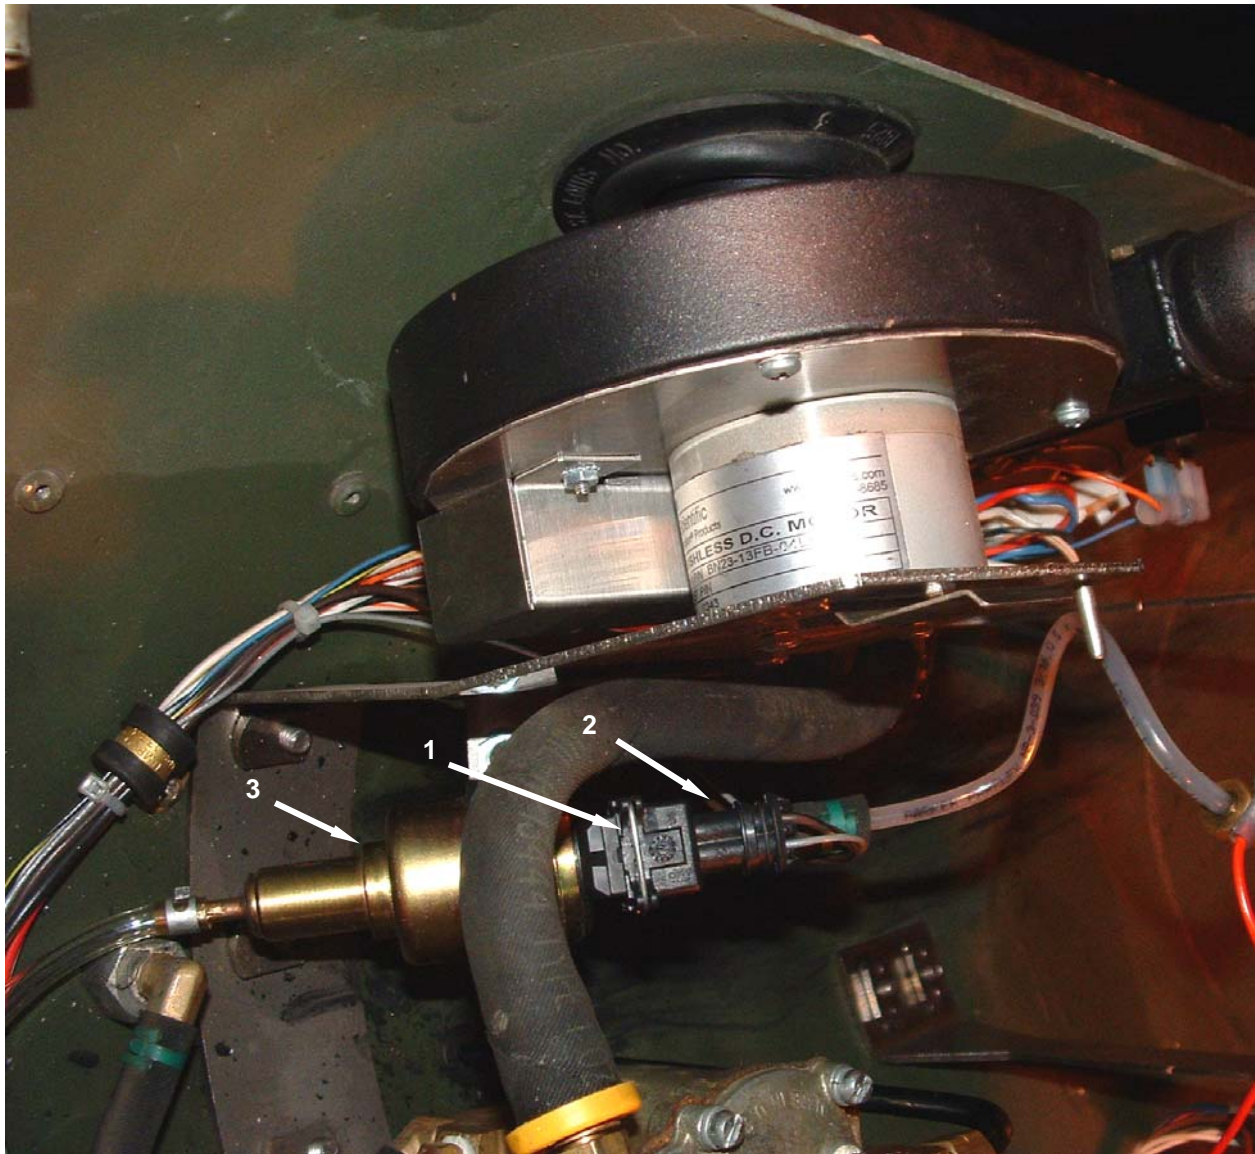

Figure 1. Test the Fuel Pump.
1. Push (do not pull) on the wire clamp (**Figure 1, Item 1**) to release the electrical connector (**Figure 1, Item 2**), and disconnect the electrical connector for the fuel pump (**Figure 1, Item 3**).
2. Test for continuity with an ohmmeter. A correct reading should read 5 ohms, +/- 2 ohms. If it has a reading other than specified, replace an open or shorted fuel pump (**Figure 1, Item 3**).
3. Reconnect the electrical connector (**Figure 1, Item 2**), and retain in place by pushing down on the wire clamp (**Figure 1, Item 1**).
Figure 1 shows the SHC-60K in a partially disassembled state in order to clearly depict the fuel pump and its connections.